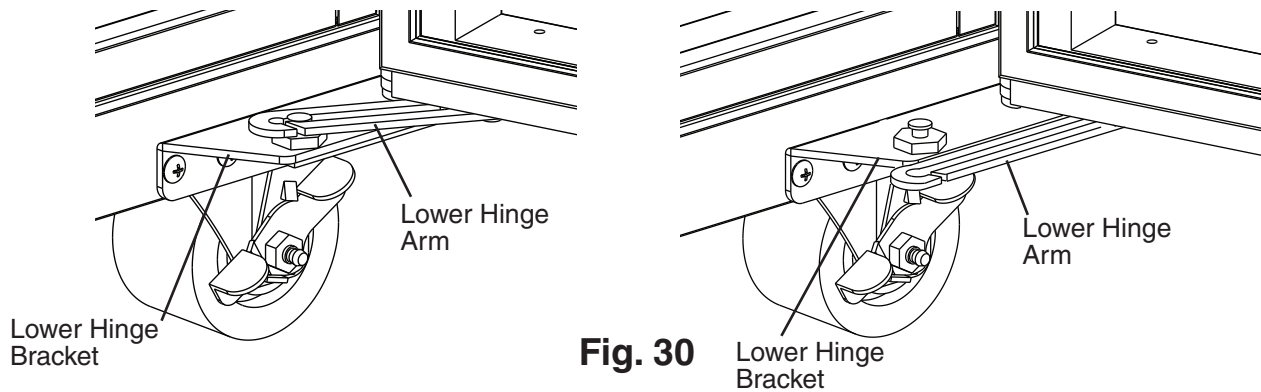

Fig. 30
- 7) Open the door. Using a flat head screwdriver, unhinge the lower hinge arm from the lower hinge bracket. See Fig. 30.